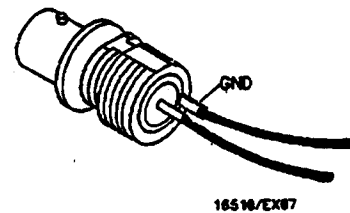

Figure 3-1. Test Connector
The performance tests and adjustments require connecting pulse generator outputs to probe pod inputs. Figure 3-1 is a test connector that may be built to allow testing of multiple channels (up to eight at one time). The test connector consists of a BNC connector and a length of wire. Connecting more than eight channels to the test connector at a time will induce loading of the circuit and true signal representation will degrade. Test results may not be accurate if more than eight channels are connected to the test connector.
The Hewlett-Packard part number for the BNC connector in figure 3-1 is 1250-1032. An equivalent part may be used in place of the Hewlett-Packard part.
Test Connectors (2) see figure 3-1